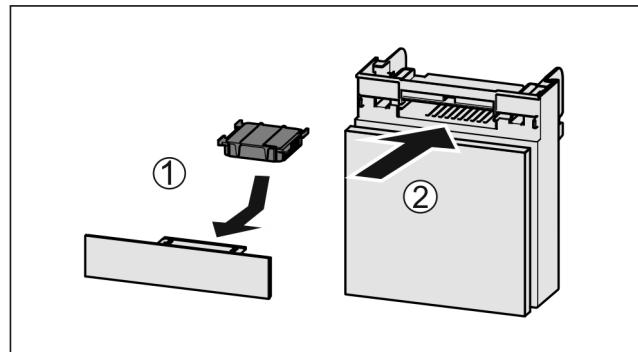

Fig. 133
- ▶ Insert the carbon filter as shown in the diagram Fig. 133 (1).
- ▶ Push the compartment in Fig. 133 (2).